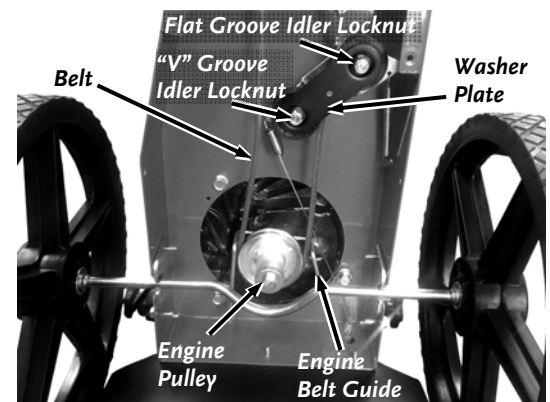

Figure 24
Note: You should be able to remove the Belt with the Engine Belt Guide in place, but if not, remove the Engine Belt Guide Bolts using a 9/16" Wrench (**Figure 24**) to remove the Guide.
10. Rotate the Washer Plate onto the Flat Groove Idler Stud and install the Locknut using a 9/16" Wrench (**Figure 24**). Tighten both Idler Locknuts using a 9/16" Wrench.